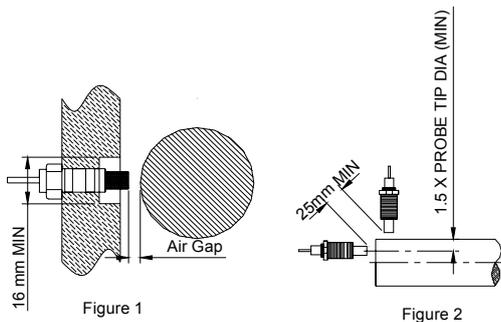
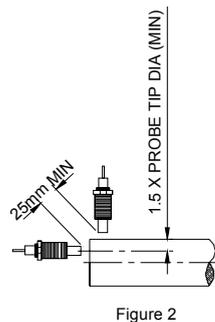

Figure 1
Figure 2
- 1) Please mount the probe in axial direction for TR3101 Three-Wire Transmitter for Shaft Vibration monitoring system. Keep the distance between probe tip and shaft about 0.05" (1.25mm). In order to avoid wrong output, please make sure there is enough distance between probe tip and the other metal material which is monitored. The least distance is 0.63" (16mm), please refer to Figure 1. For exact gapping procedure see the section **Set-up Procedure** of chapter **Operation**. When mounting two probes adjacently, the two probes should keep 1" (25 mm) at least as shown in Figure 2.